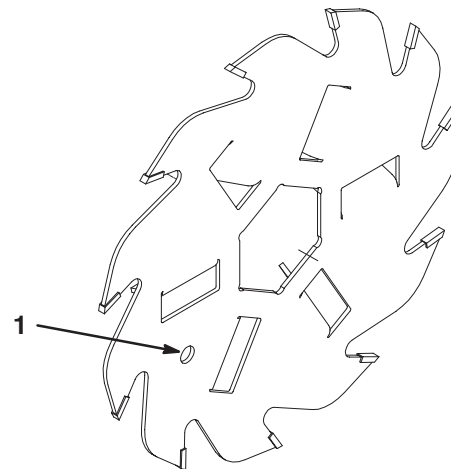

Figure 12
4. Install the next blade clockwise so the index reference hole (Fig. 12) is not aligned with the first blade hole by one flat of the shaft. Continue to install spacers and blades in this manner until the full complement of blades have been installed. When properly assembled, the blades will be staggered in such a manner to give a helix appearance.